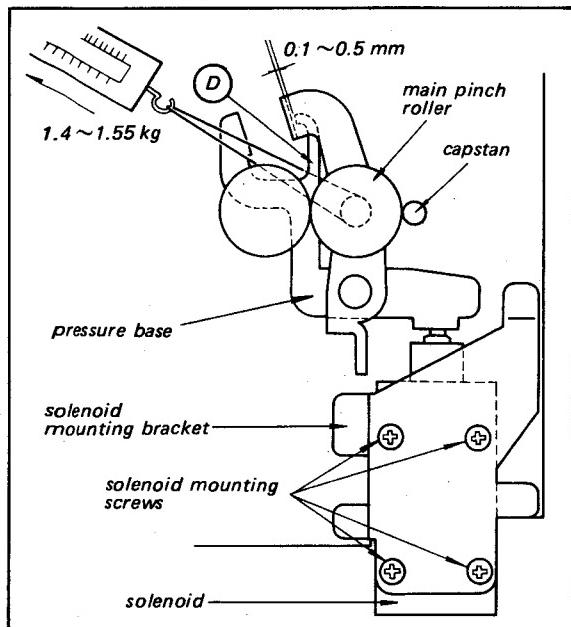

Fig. 7-17 Pinch roller adjustment
1. Make a loop in a piece of string and attach the spring scale around the base of the pinch roller shaft. See, Fig. 7-17. Use 4 kg spring scale (SONY Part No. 9-911-042-01).
3. Pull the scale in the direction indicated by the arrow in Fig. 7-17. Check the reading when the pinch roller leaves the capstan. It should be in between 1.4 kg and 1.55 kg. If not, proceed to Step 4.
4. Loosen four screws in Fig. 7-17. Move the solenoid downwards when the reading is too low. Tighten the screws.
5. Check for  $0.1 \sim 0.5$  mm clearance between the pressure base and pinch roller base. If not, bend (D) with pliers.